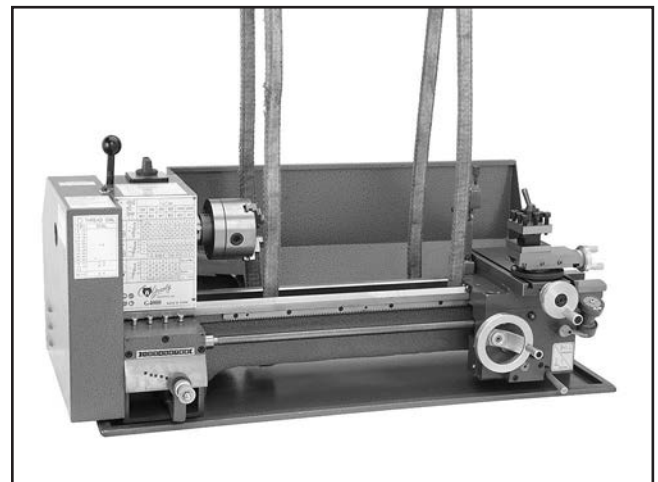

Figure 6. Lifting straps properly positioned.
4. Wrap the lifting straps around the back of the bedway and up through the center cavities to avoid bending the leadscrew or contacting the carriage controls when lifting, as shown in **Figure 6**.